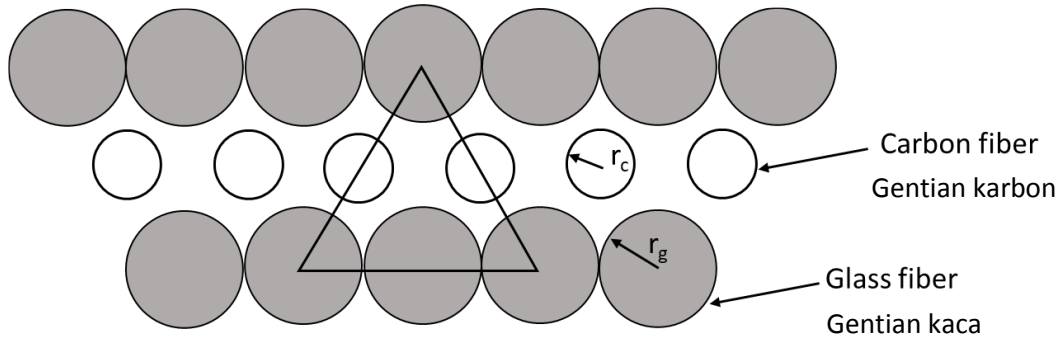

Figure 1 /Rajah 1
- (c). The maximum fiber packing arrangement for a composite with two different fiber types and size is Figure 1. Both fibers are arranged in equilateral triangle arrangement. Compute the maximum fiber volume fraction for i) the glass fiber and ii) the carbon fiber. The diameter of the glass fiber ( $r_g$ ) is 13  $\mu\text{m}$  and the diameter of the carbon fiber ( $r_c$ ) is 8  $\mu\text{m}$ .